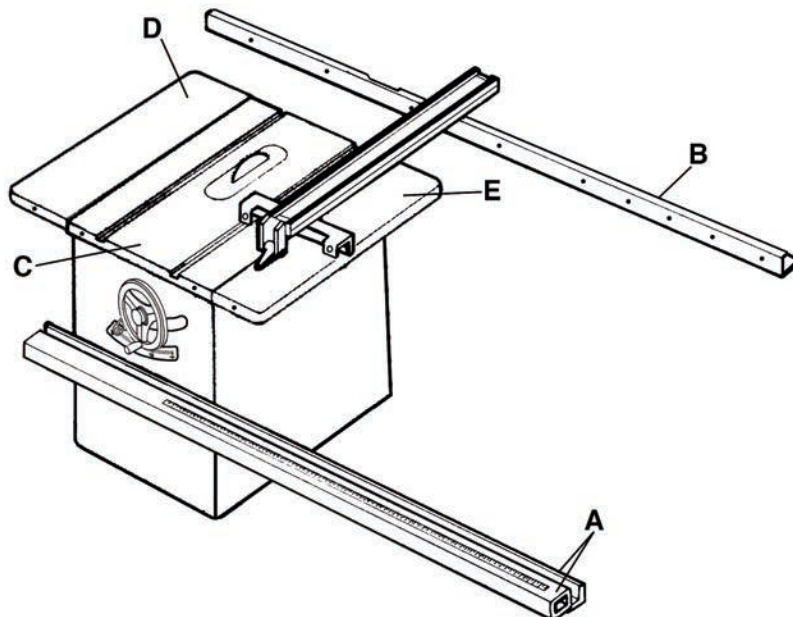
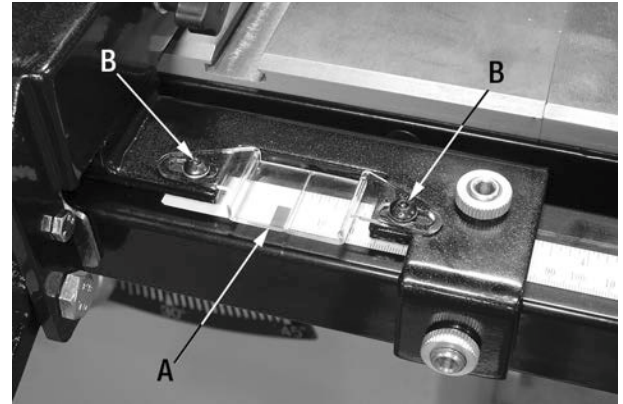

FIGURE 1
FIGURE 4
Place and align the mounting holes of the front rail and tube assembly (A) Fig.1 with the holes in the front lip of the table (C) and extension wings (D & E). Install the front rail and tube assembly to the table and extension wings using 4 countersunk head bolts, 4 washers, 4 spring washers and 4 hex. nuts.
Place and align the mounting holes of the rear rail (B) Fig.1 with the holes in the rear lip of the table (C) and extension wings (D & E). Install the rear rail to the table using 2 cap screws, washers, and spring washers.
Slide the fence against the saw blade. Place the measuring tape on the tube (A) Fig.1 under the pointer window (A) Fig.4. The pointer window contains 2 small red lines which represent the thickness of the blade kerf, line up the zero mark of the measuring tape underneath the red line on the left side. Make sure the measuring tape is positioned perfectly parallel to the tube and that the measurements are clearly visible.
Remove the fence. Peel away a small portion at a time of the measuring tape backing and carefully apply it to the tube. We suggest taking your time during this installation, if a mistake is made and the zero mark does not align perfectly, you can loosen the pointer window screws (B) Fig.4, reposition the pointer window in the correct position and retighten the screws.